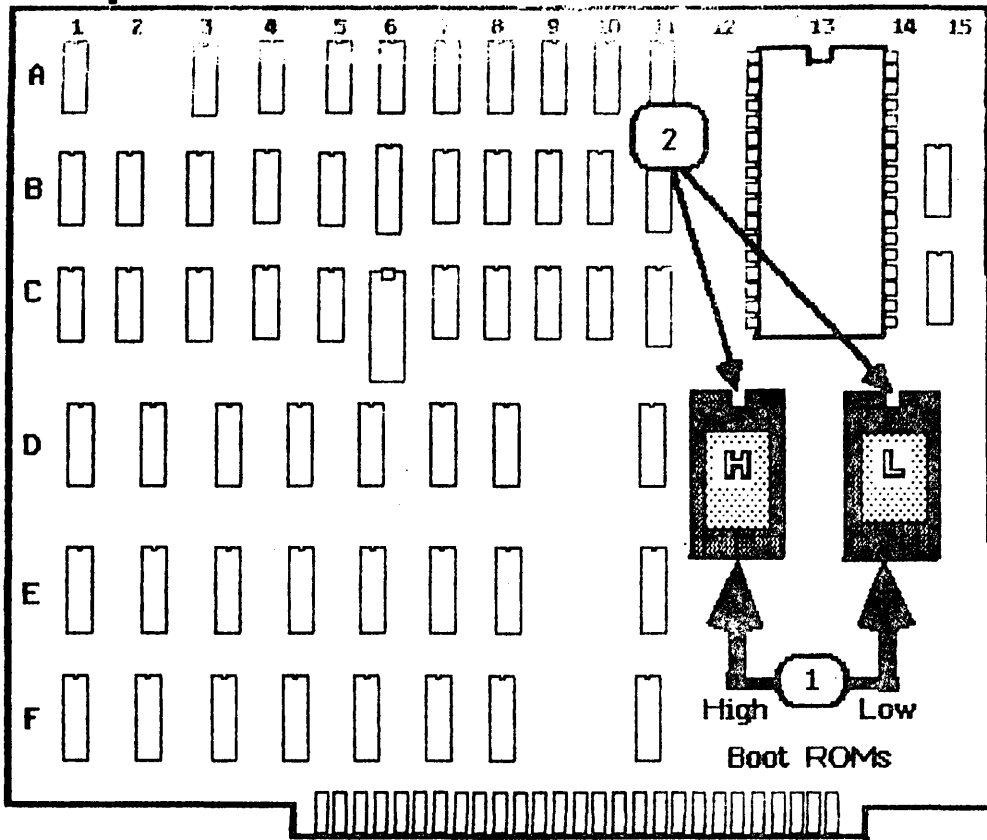

FIGURE 8
1. Locate the Boot ROMs on the CPU board (see Figure 8, #1).
- a) Orient the chip so that the notch (see Figure 8, #2) is facing the same direction as the notches on the surrounding chips.